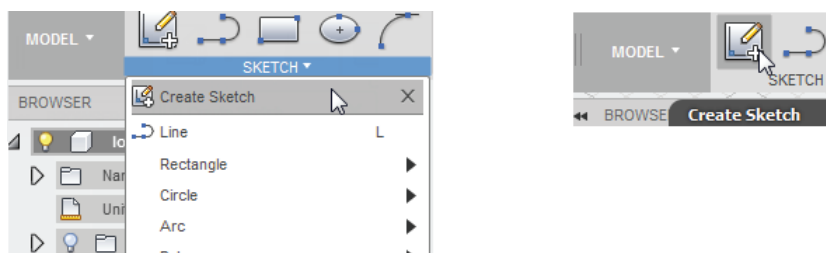
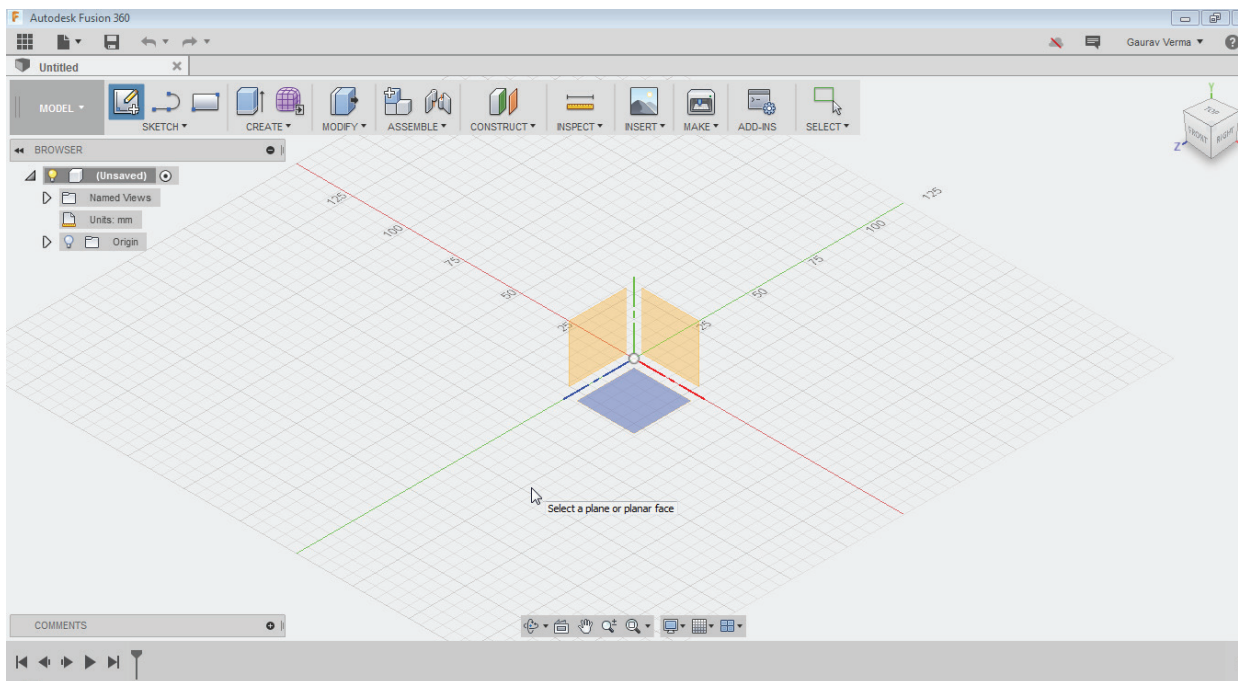

Figure-1. Create Sketch
Figure-2. Select Plane for Sketch
- To start a new sketch, click on the **Create Sketch** tool from **SKETCH** drop-down in **Toolbar**; refer to Figure-1. The three primary planes will be displayed on canvas screen; refer to Figure-2.